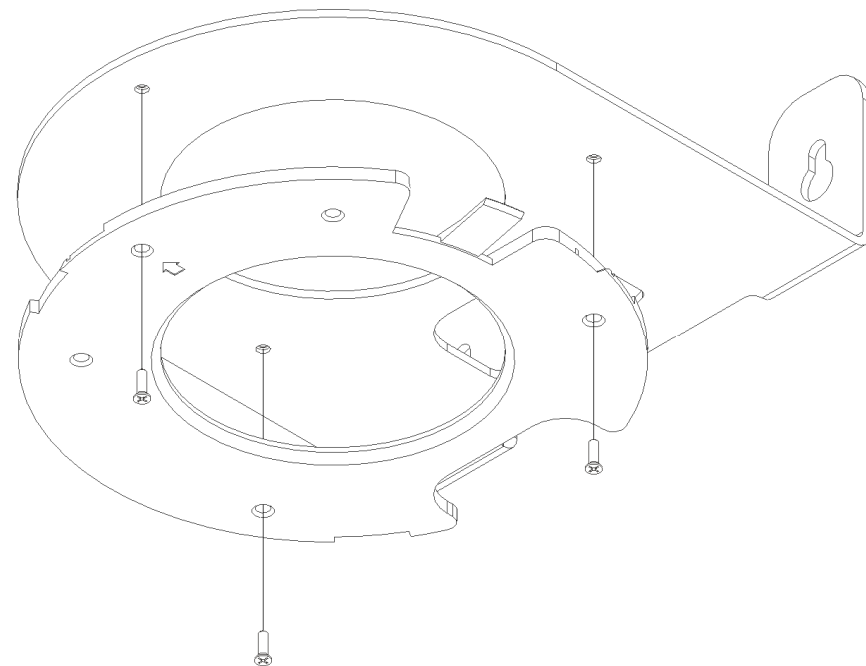

Figure 1
Step 3 - Attach the Ubiquiti mounting plate to the Model 1006-UBI by using three #4-40 flat head screws (supplied). The arrow of the Ubiquiti mounting plate should face away from the wall (Ref. Figure 1)